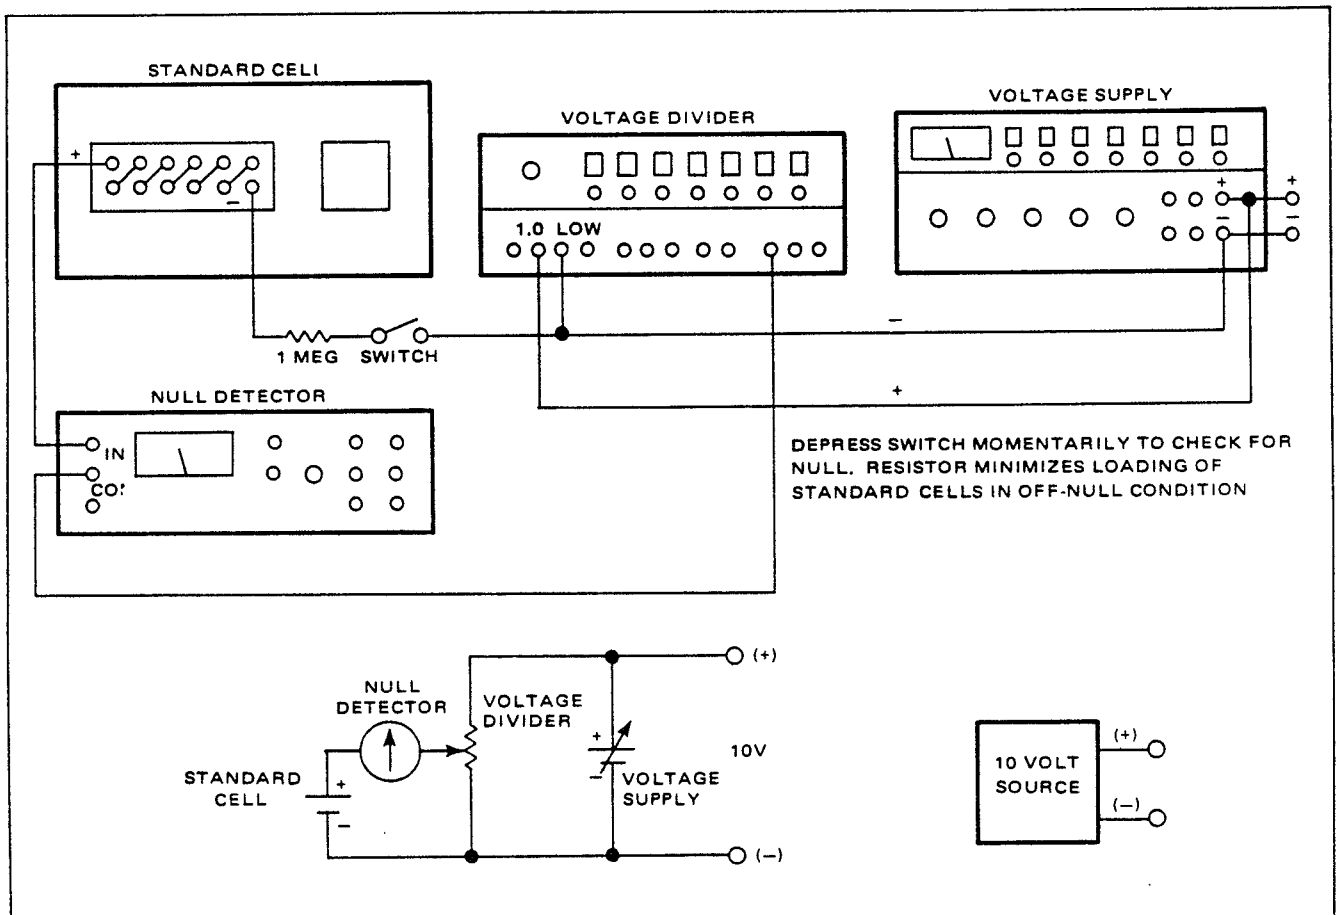

Figure 5.1 - 10 Volt Source
5.2.3.1 To produce voltage levels of necessary accuracy, special techniques are required. Suitable methods of generating these voltages are shown in Figure 5.1. Tables 5.2 and 5.3. A precise and traceable source of 10 volts is required, not only for calibrating the 10 volt range, but
5.2.3.2 A source filling these requirements is shown in Figure 5.1. This circuit consists of a null detector, 7-decade